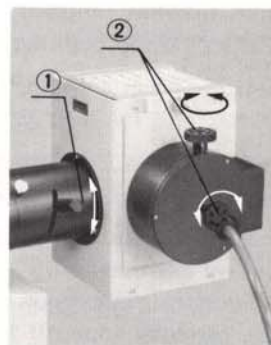

Fig. 6
- 5) Bring the arc image into focus with the focusing knob ① and center the brightest spot of the arc with the centering knobs ②. (Fig. 6)